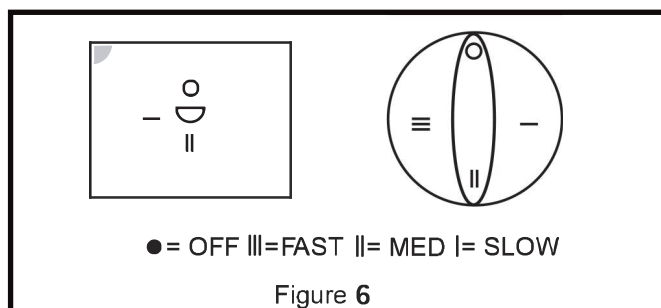

Figure 6
INSTALLATION NOTE: The "O" and the small corner cut-out on the front of the switch mechanism must be at the top and top left respectively (See Figure 6).
5. Check the operation of the fan by rotating the control through the four positions marked 0 - III ("0" position is OFF) (Figure 6).